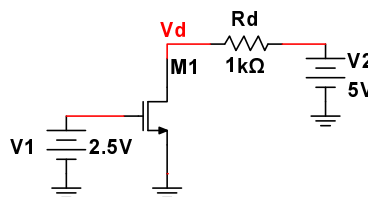
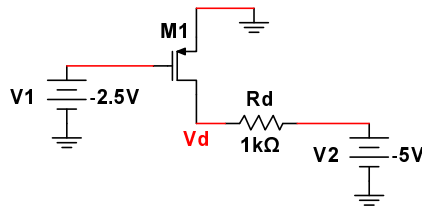

Figure 2: NMOS transistor characterization circuit
Figure 3: PMOS transistor characterization circuit
Figure 2 shows a characterization circuit for an NMOS transistor. To obtain  $I_D$  as a function of  $V_{GS}$ ,  $V_1$  is swept while  $V_2$  is kept constant. If  $V_1$  is kept constant and  $V_2$  is swept,  $I_D$  can be obtained as a function of  $V_{DS}$ .
Characterization circuit for a PMOS transistor is shown in Fig. 3. Keeping  $V_2$  constant and sweeping  $V_1$  provides  $I_D$  as a function of  $V_{SG}$ . Sweeping  $V_2$  while  $V_1$  is kept constant provides the  $I_D$  vs.  $V_{SD}$  characteristics.
1. Draw the schematics for the NMOS characterization circuit in Fig. 2 using the 2N7000G transistor.
2. Repeat (1) for the CD4007N transistor.
3. Draw the schematics for the PMOS characterization circuit in Fig. 3 using the CD4007P transistor.
- Build the NMOS characterization circuit in Fig. 2 using the 2N7000G transistor.
3. Build the PMOS characterization circuit in Fig. 3 using the CD4007P transistor, connect pin 7 to -5V supply voltage and pin 14 to GND.